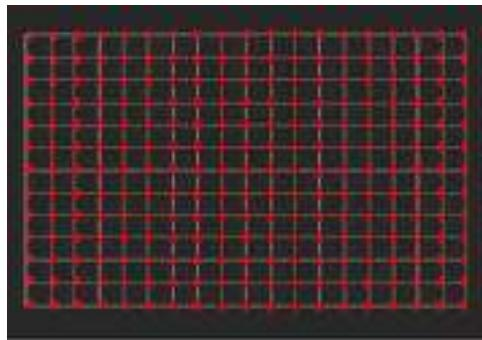

Figure 77. Example Red Dot Grid Pattern
32. Click the **Result** button below the file list to display the analyzed result. If there is an X over each cross in the **Image** mode (Step 31), clicking the **Result** button should produce a box grid pattern with red dots (Figure 77) at or near box line intersections.
36. When the Distortion calibration camera image, **Result red dot** image and the **CA-Longitudinal analysis** data plot appear as shown in Figure 77 and Figure 80 above, the Test Chart image capture and camera focus are properly calibrated. The calibration will produce valid analysis results.
7. If there is an X over each cross in the **IMAGE** mode (Step 4), clicking the **Result** button should produce a box grid pattern with red dots at or near box line intersections (see Figure 77).